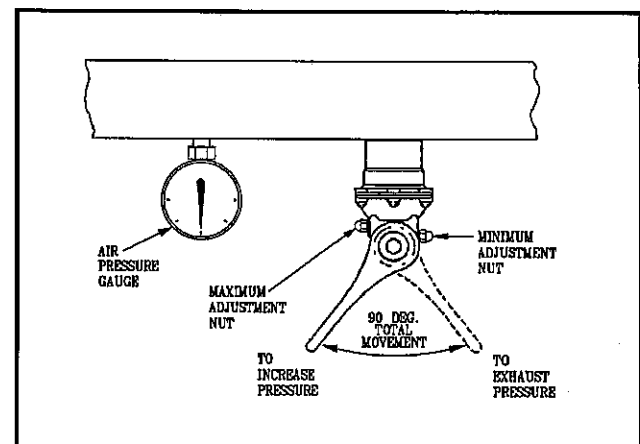

FIG. 4-4 HAND VALVE
The **HAND VALVE** (See FIG. 2-2 and FIG. 4-4) is located on the rear-most airbag crosstube beside the **AIR HEIGHT CONTROL VALVE**. It has two positions.
The **PRESSURE GAUGE** (See FIG. 2-2 and FIG. 4-4) is located near the **HAND VALVE**. This gauge provides air pressure information for adjusting the air ride system manually.
4-7.1 Minimum air pressure should be at least three (3) PSI. Loosen the minimum adjustment nut (See Fig. 4-4), set the air pressure at three (3) PSI and tighten the nut again.
4-7.2 Maximum air pressure should be no more than eighty-five (85) PSI. Loosen the maximum adjusting nut (See FIG. 4-4), set the air pressure at eighty-five (85) PSI and tighten the nut again.